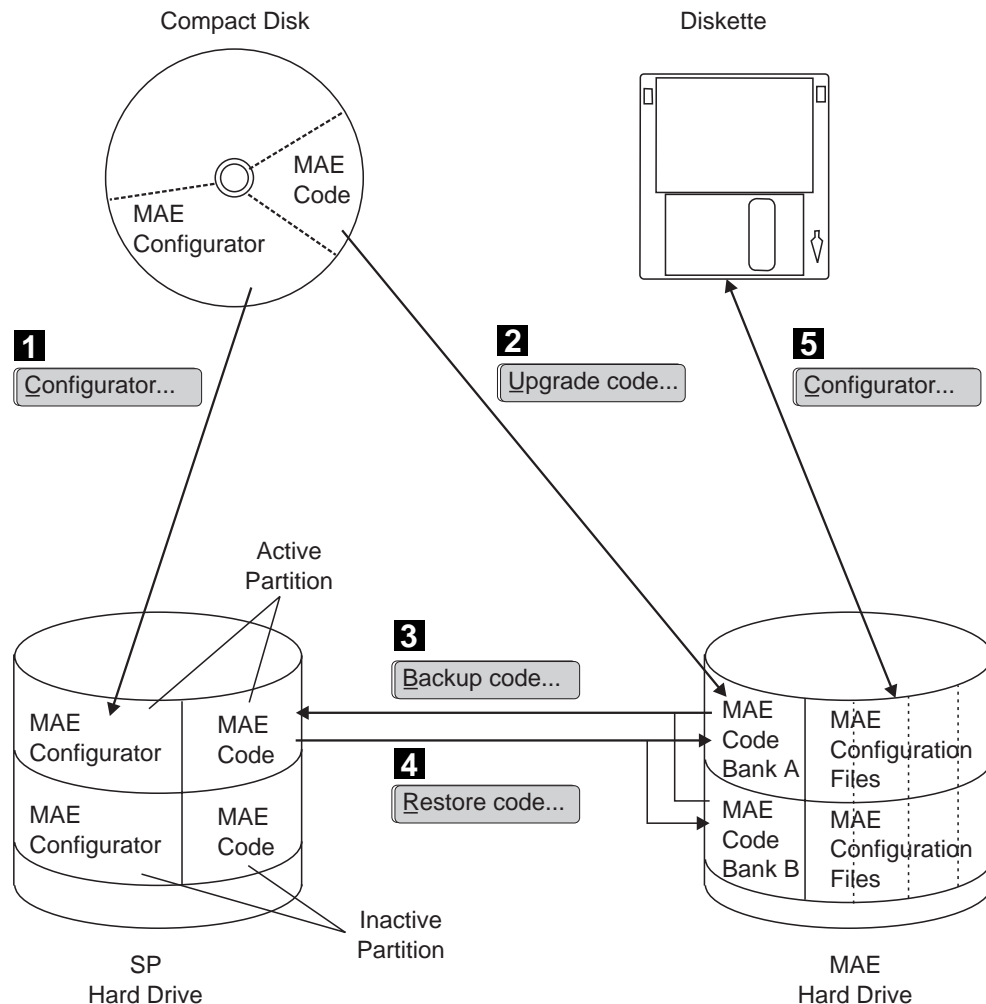

Figure 2-4. Overview of the MAE Code and Configuration Files Management
This procedure saves only the image code from the MAE hard disk to the hard disk of the service processor. Refer to Figure 2-4 on page 2-4 detail **3**. To save the configuration files you must use the MAE configurator program.
This procedure restores only the image code from the hard disk of the service processor to the MAE hard disk. Refer to Figure 2-4 on page 2-4 detail **4**. To restore the configuration files you must use the configurator program.
1. Refer to Figure 2-4 on page 2-4 detail **2**.